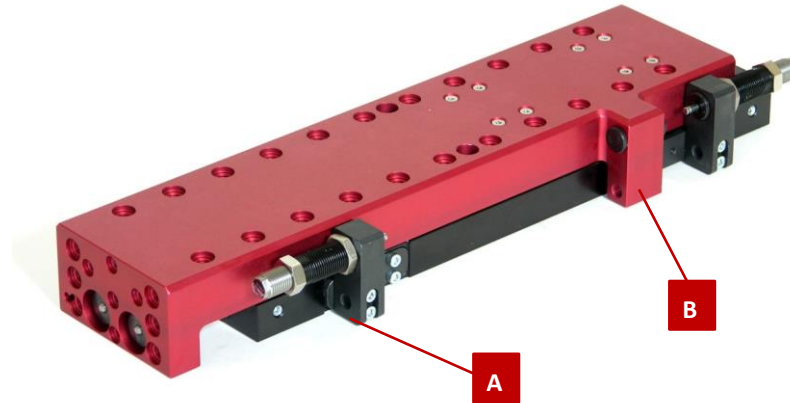
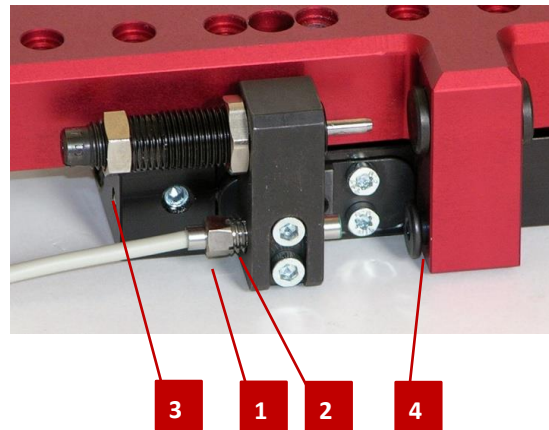

Fig. 12 A+B: Holder of inductive initiators
Fig. 13 Mounting the inductive initiator
1. Screw the initiator (Fig.13, 1) with the clamping sleeve (Fig.13, 2) into the holder A and B (Fig. 12).
2. Adjust and tighten initiator (Fig. 13, 1) together with shock absorber (Fig. 13, 3).
4. Check initiator for correct function via initiator contact screw (Fig. 13, 4).